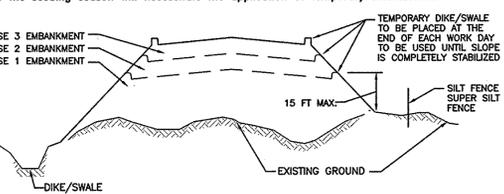

Figure B.2: Incremental Stabilization - Fill
- Construction sequence example (Refer to Figure B.2):**